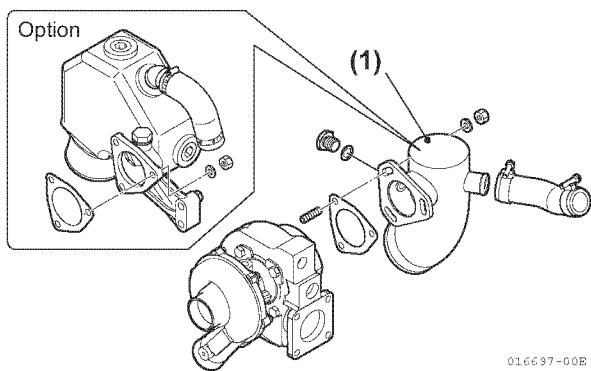

Figure 9-6
(Figure 9-6, (1)). See *Remove cooling system components from engine.* on page 5-34.